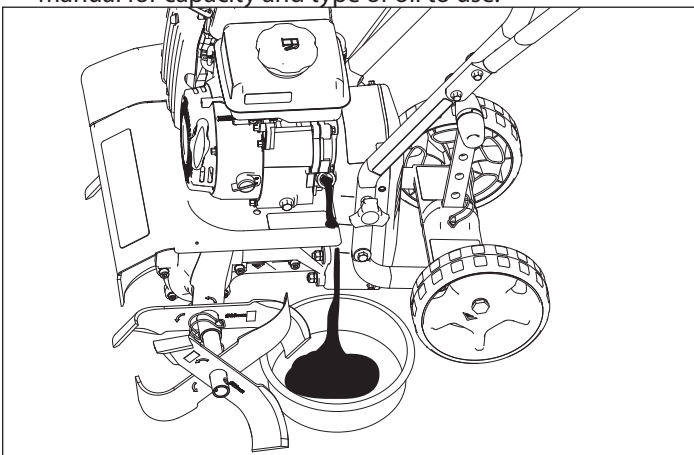

FIGURE 13
1. To change the oil, first remove the left side shield from the tiller. Then lock drag stake into deepest position and gently tip tiller to the left, resting it in a tilted position on its left outer tine, wheel, and drag stake. Remove oil fill plug with the tiller resting in the tilted position until all of the oil has been drained into an appropriate receptacle. **SEE FIGURE 13.** Wipe up any spilled oil residue and dispose of oil properly according to local laws and/or ordinances.